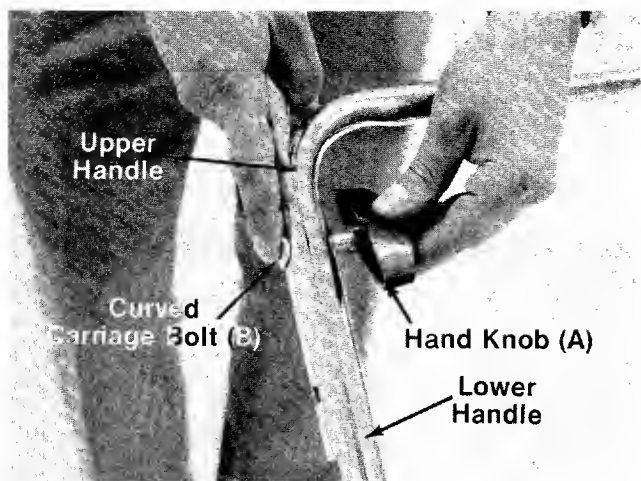

FIGURE 4.
Secure with two curved carriage bolts (B) and handle knobs (A) as shown in figure 4. The knobs can be either to the inside or the outside of the handle.